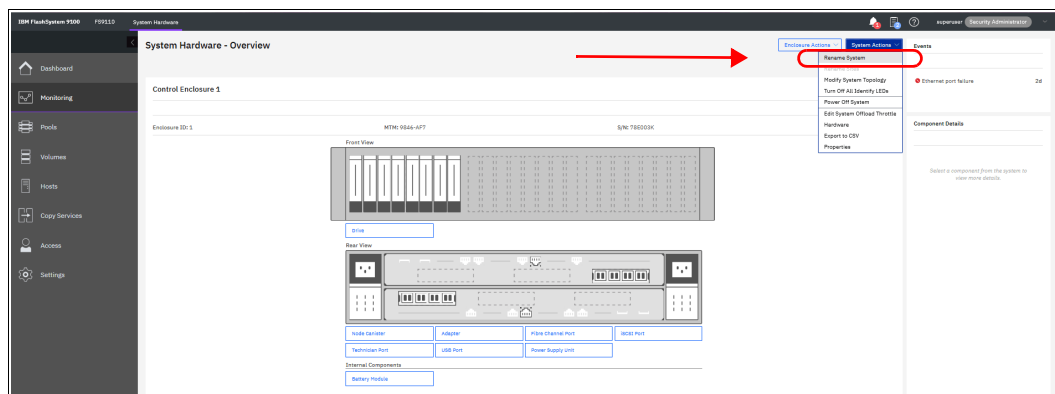

Figure 4-126 Overview window
1. Select **Monitoring** → **System Hardware**, and click **System Actions** in the upper right of the window, as shown in Figure 4-126.